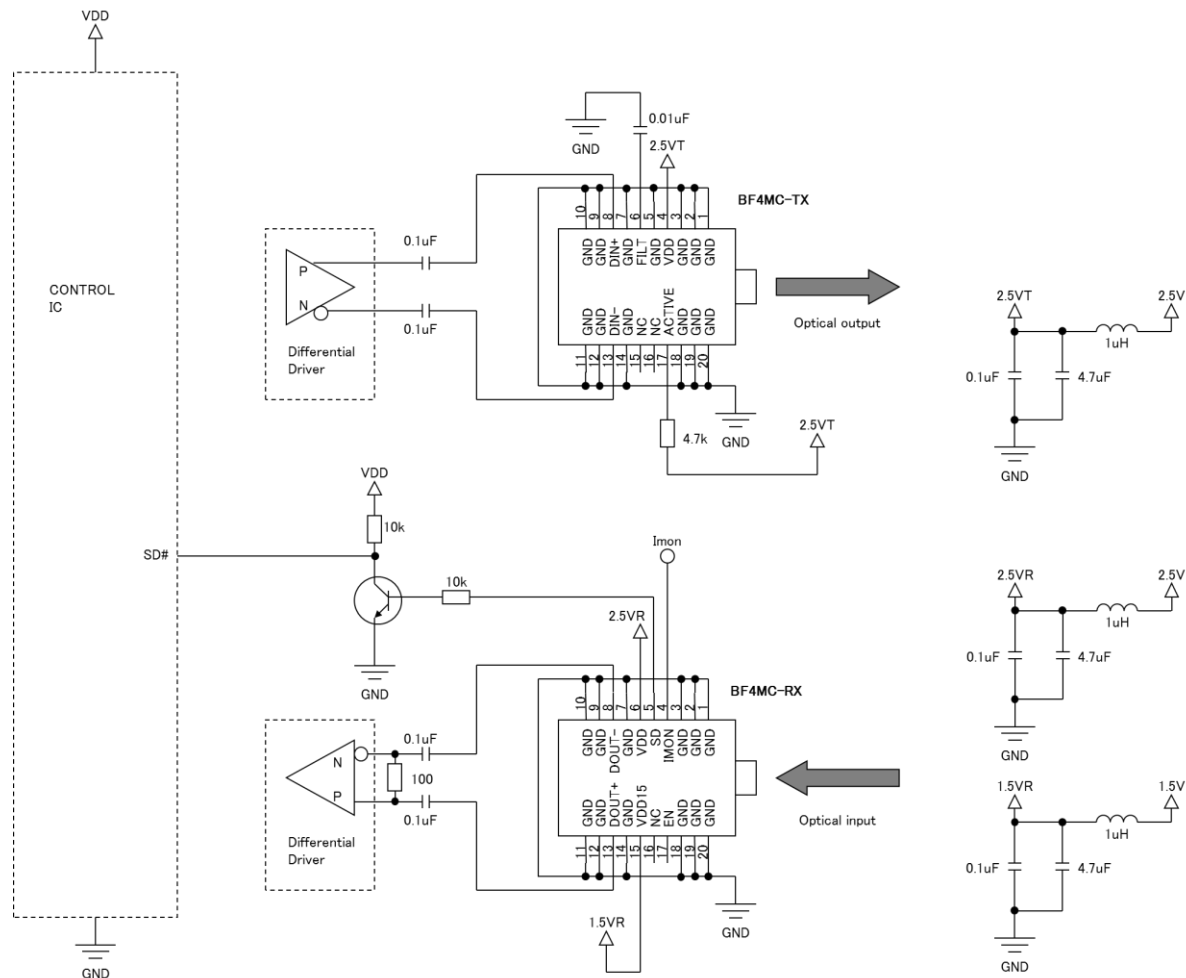

Figure 2.9 (A) Connection example of +2.5 V / +1.5 V (dual power supply mode)
In order to minimize the noise leak from the digital circuit, make sure to separate the power supply for BF4MC-TX and that for BF4MC-RX and connect with inductors or bead inductors. In addition, the SD output of BF4MC-RX is +1.5 V logic, it is necessary to convert the level when it is connected to +3.3 V CMOS. The level is converted by use of a transistor in the connection examples shown in Figure 2.9 (A) and Figure 2.9 (B). In this case, the logic is inverted.
*2) Measured the value at BF4MC-TX each pins on the evaluation board refer to Fig 2.9(A) circuit.
*4) Measured the value at BF4MC-RX each pins on the evaluation board refer to Fig 2.9(B) circuit.